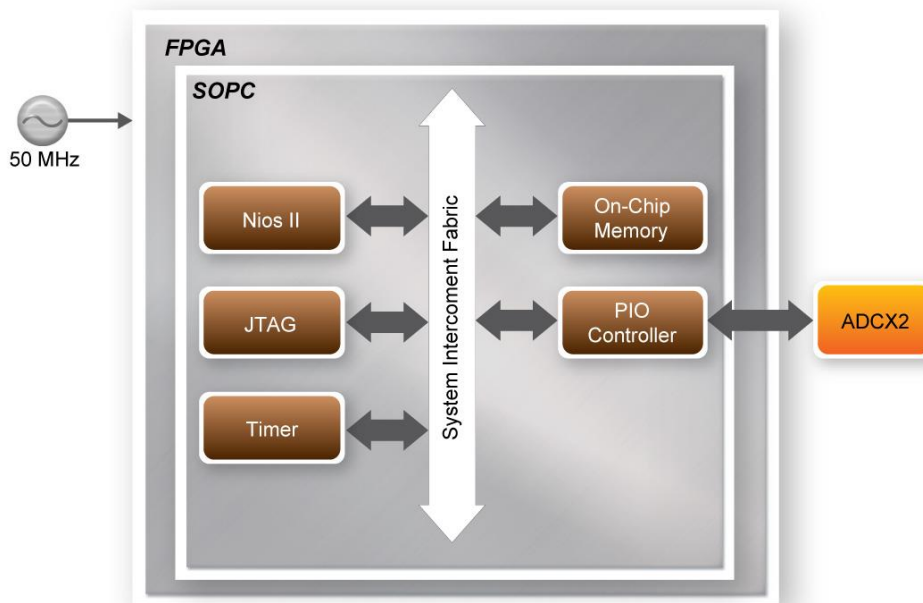

Figure 5–29 Block Diagram of the Power Measurement Demonstration
**Figure 5–29** shows the system block diagram of this demonstration which is designed based on SOPC Builder requiring a 50 MHz clock provided by the board. In the SOPC builder, all the components are designed to run on a 50 MHz clock. The NIOS program is run on a on-chip memory. The PIO Controllers are used to implement SPI protocol where the SPI signal is directly toggled by the Nios II.